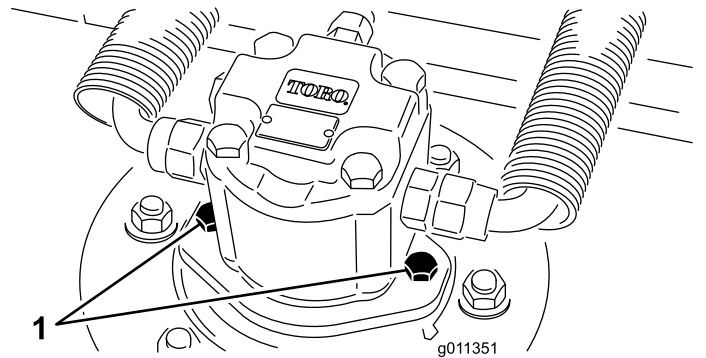

Figure 80
2. Disconnect and remove the hydraulic motor from the cutting unit (Figure 80). Cover the top of the spindle to prevent contamination.
3. Install the hydraulic motor to the cutting unit (Figure 80). Make sure that the O-ring is in position and not damaged.